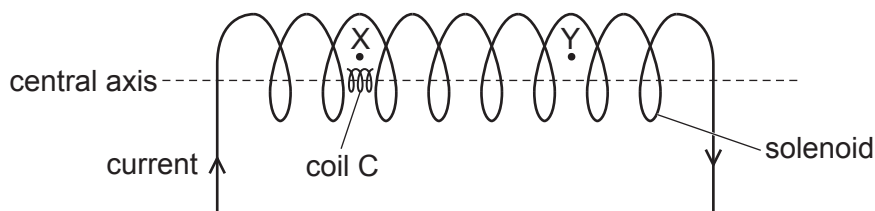

Fig. 6.1
- 6 (a) A small coil C has 64 turns and cross-sectional area  $0.71 \text{ cm}^2$ . The coil is placed inside a solenoid as shown in Fig. 6.1.